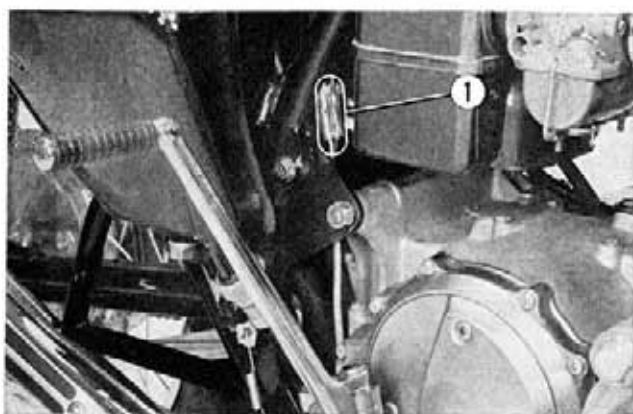

Fig. 7-15 ① Contact breaker lead
② Contact is worn
③ One side contact
④ Contamination of the contact
2. Disconnect the lead connectors (yellow and blue leads) at the center of the frame, right lower side. (Fig. 7-15)